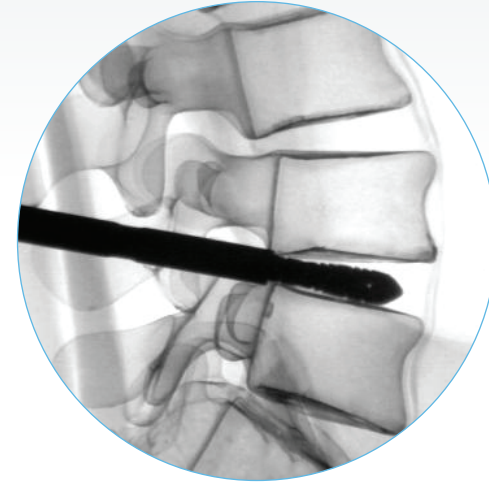

Figure 8
- Lightly impact the implant in the disc space. Confirm proper fit and position via lateral fluoroscopy (Figure 8).